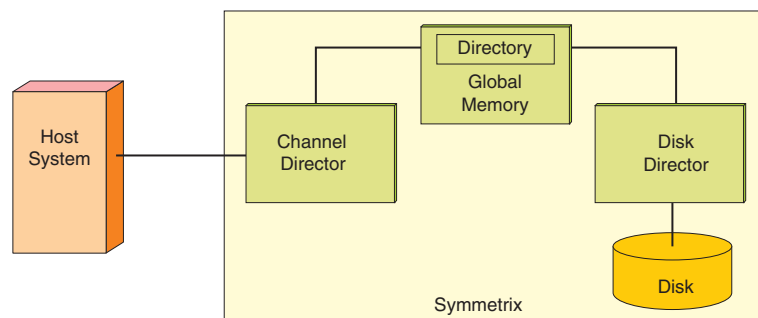

Figure 3-2 Symmetrix Global Memory Management and Data Flow
Symmetrix DMX systems use the same memory principle as host systems, but with enhanced caching techniques in global memory. Figure 3-2 illustrates global memory use in Symmetrix systems.
- ◆ The channel director handles I/O requests from the host. It accesses the directory in global memory (Figure 3-2) to determine if the request can be satisfied within global memory. The directory contains information on each memory page and blocks within each page.